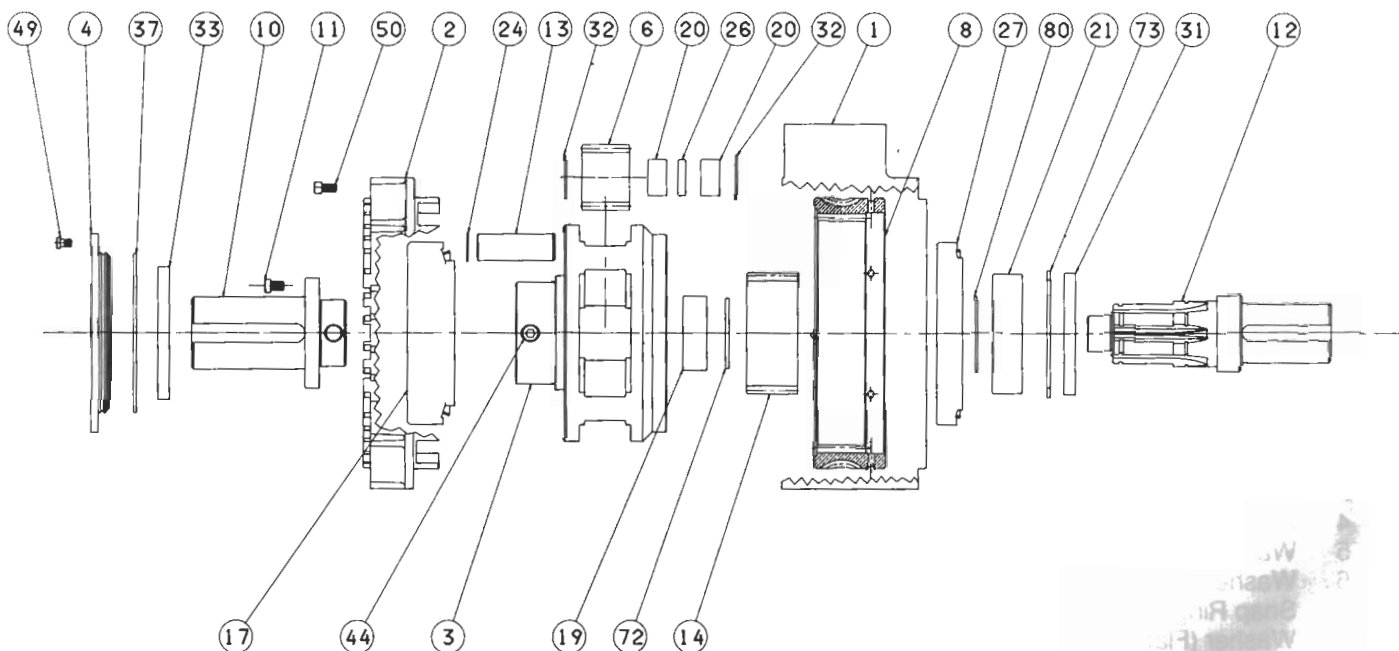
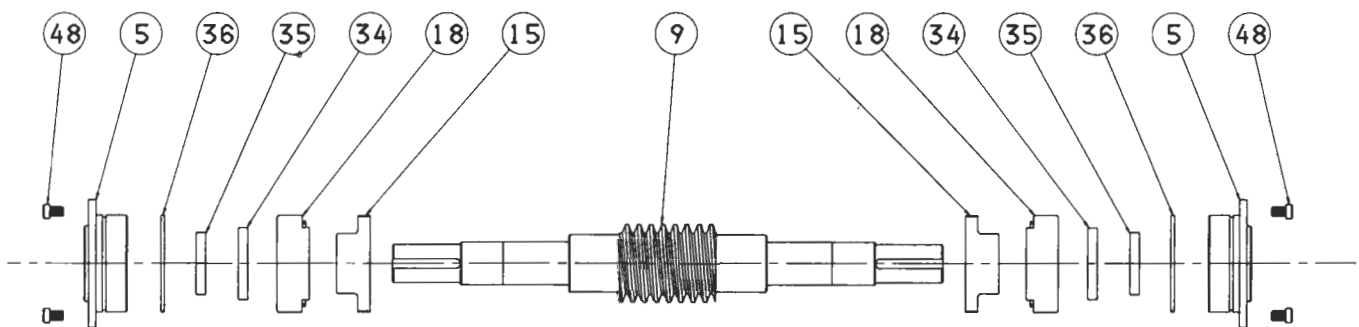

Figure 18
Figure 19
A. Replacement of Seals (Figure 18, 19)
3. Remove screw (49) that retains seal cap (4).
4. Remove seal cap (4), seal (33) and "O" Ring (37).
5. Remove screws (50, 51, 58), retaining end bell (2).
6. Remove assembly consisting of shaft (10), bearing (17), carrier (3) and pinions (16).
7. Remove roll pin (44) and screw (11), carrier (3) can be removed from shaft (10). Press needle bearing (20) from pinion (6). Press out bearing (17). Remove retaining ring (24) press out pinion pin (15) and remove pinion and thrust races (6, 32). See Figure 18.
8. Remove bearing (19), snap ring (72) and sun gear (14).
9. Remove bearing (21) and (27) from end bell (1). See Figure 18. Remove snap ring (73), seal (31) and shaft (12) from end bell (1).
10. Remove spur gear (8) from housing (1).
11. Remove screws (48) holding seal cap (5). See Figure 19. Remove seals (34, 35) and "O" Ring (36).
12. Remove worm shaft (9), bearing (18) and grease retainer (15).